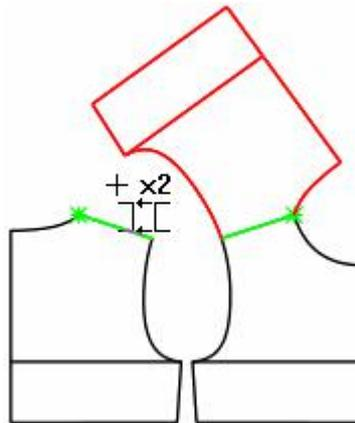

figure 2
1. As shown in Figure 2,Use this tool to position the cursor near the neckline and click the back shoulder slash.